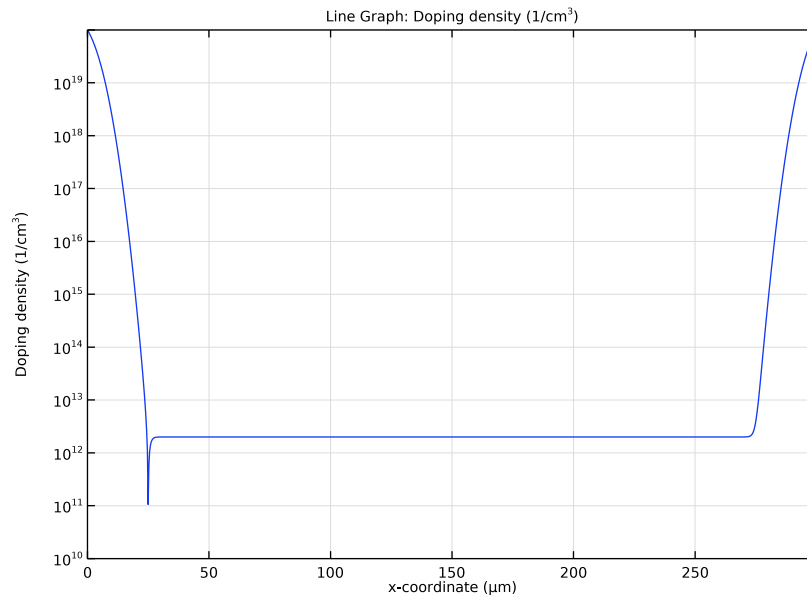

Fig. 4A Hole Distribution
- 2 In the **Settings** window for **ID Plot Group**, type Fig. 4A Hole Distribution in the **Label** text field.
- 1 In the **Model Builder** window, expand the **Fig. 4A Hole Distribution** node, then click **Line Graph 1**.
- 9 In the **Fig. 4A Hole Distribution** toolbar, click  **Plot**.
- 1 In the **Model Builder** window, right-click **Fig. 4A Hole Distribution** and choose **Duplicate**.